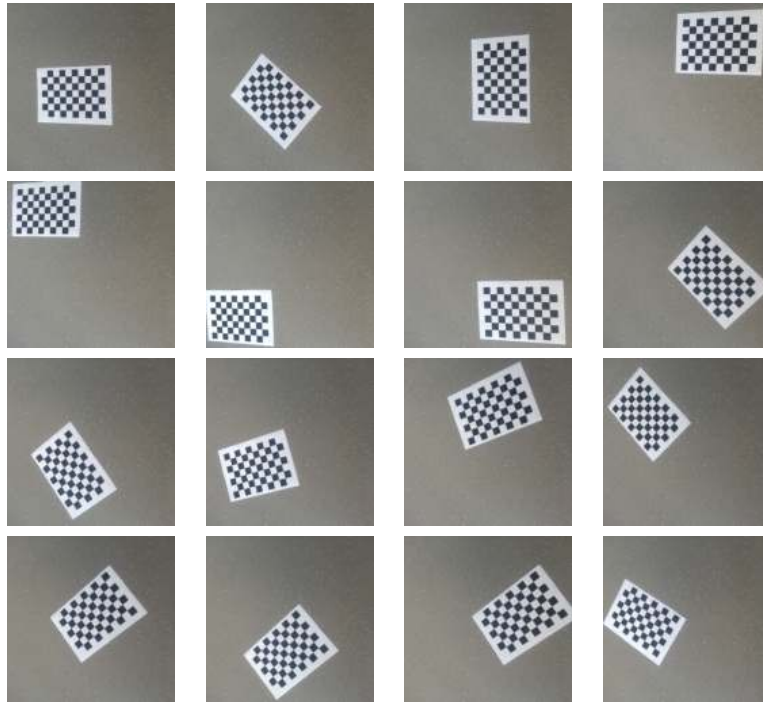

Figure 1: Example of pictures used for calibration
- c) Take 10-20 pictures of the pattern from different angles. The distance between camera and pattern should be roughly the same as in the later experiments. Figure 1 shows examples of pictures taken for calibration.